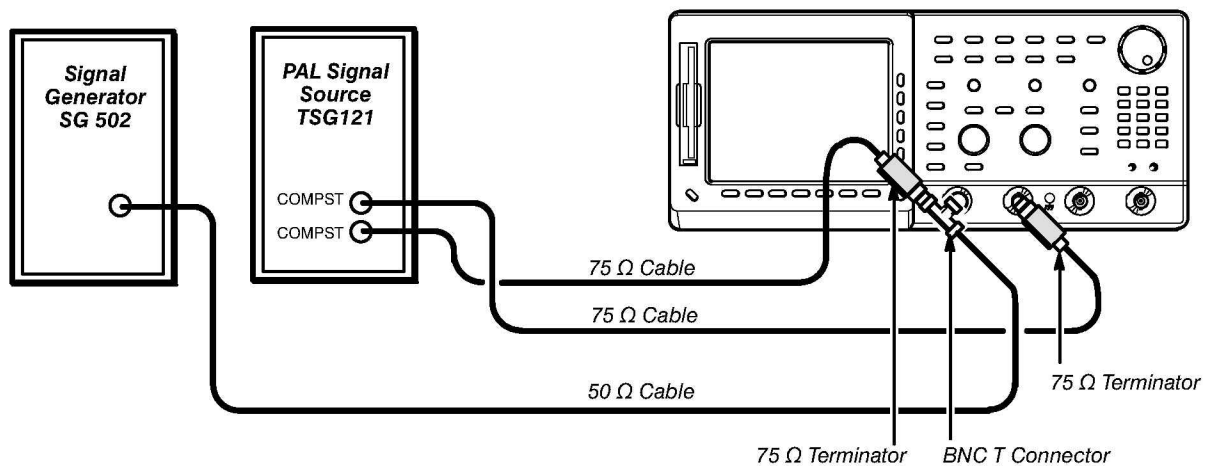

Figure 4-33: Subsequent 60 Hz Rejection Test Hookup
- Reconnect the output of the signal generator (SG 502). Connect the PAL signal source's composite signal connector (labelled **COMPST** on the TSG 121) to a 75 Ω cable and a 75 Ω terminator. Connect both signals to the CH1 input through a BNC T (see Figure 4-33).
- Connect another composite signal connector from the PAL signal source (labelled **COMPST** on the TSG 121) through a 75 Ω cable and a 75 Ω terminator to the CH2 input (see Figure 4-33).